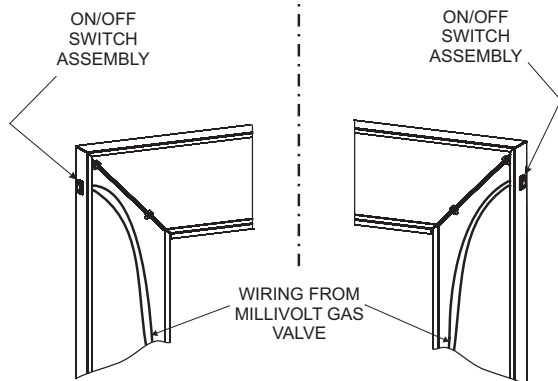

Figure 11
3. Run the low voltage alternate switch wires up the back of the right or left surround panel. Then secure the wires with wire clips provided. See Figure 11.